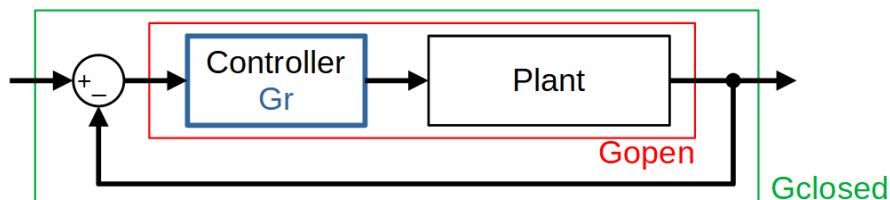

Figure 35: Signal colors according to transfer functions in the control loop.
- ♦ **Bode:** The amplitude response and the phase response of the axis are plotted. The signal colors match to transfer functions as following (see also Figure 35).